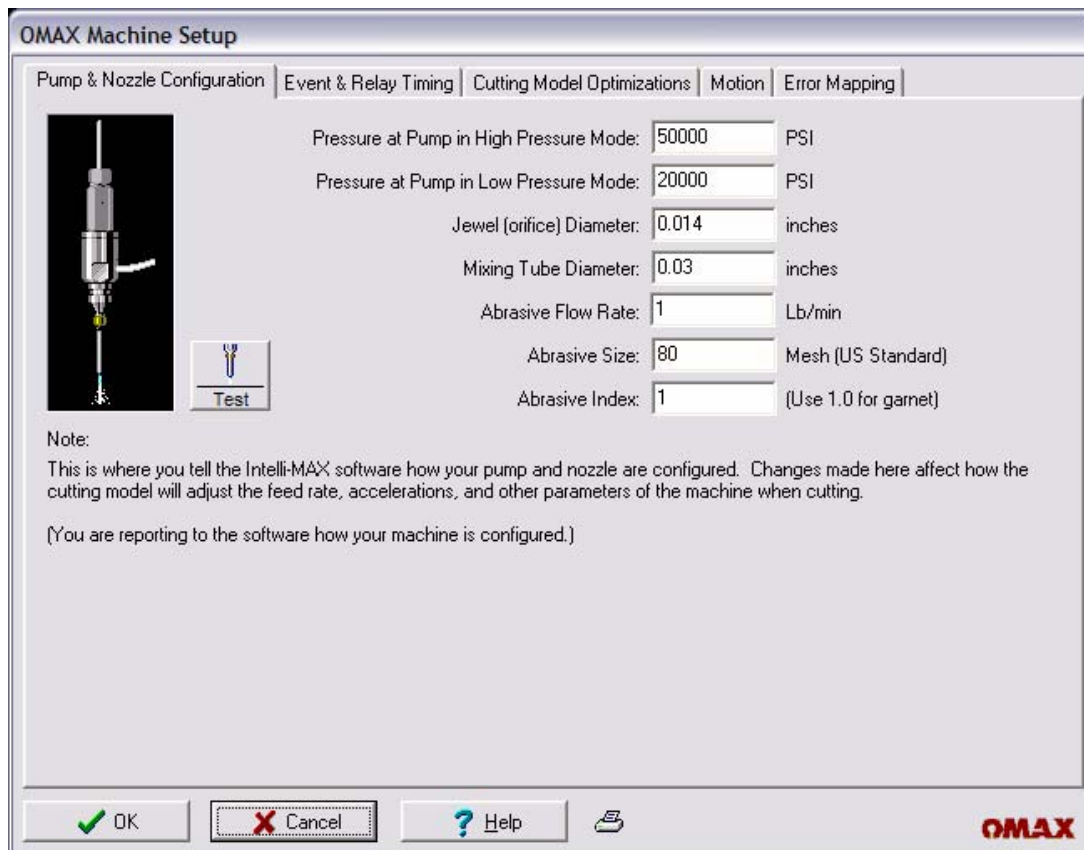

Figure 1: Enter in the correct data for your machine
10. Using the **Pump & Nozzle Configuration** dialog box (Figure 1) in **Make**, ensure that your machine's water pressure, jewel (orifice) diameter, mixing tube diameter, abrasive flow rate, etc., are accurate for the new single pump operation. Click **OK** when finished.
11. Using the **Pump & Nozzle Configuration** dialog box (Figure 1) in **Make**, ensure that your machine's water pressure, jewel (orifice) diameter, mixing tube diameter, abrasive flow rate, etc., are accurate for the changed dual pump operation. Click **OK** when finished.